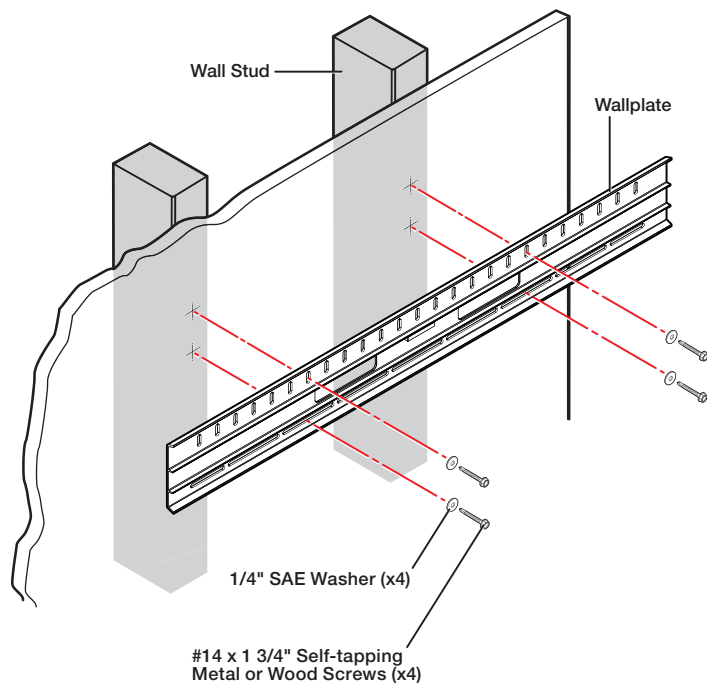

Figure 8. Attaching the Wallplate to Studs
1. Position and level the included wallplate under the display screen (see figure 8 on page 5).